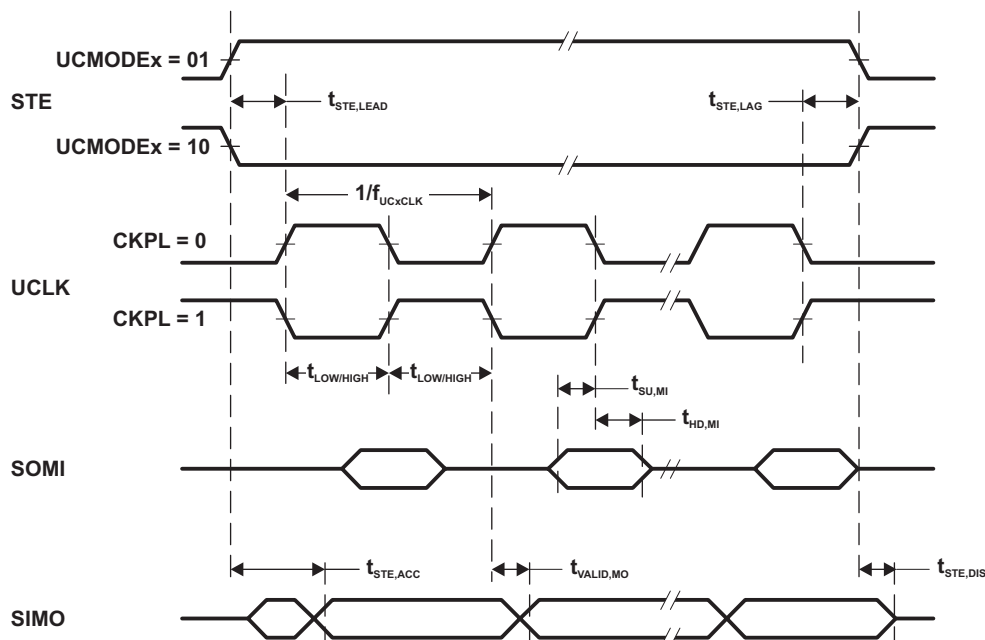
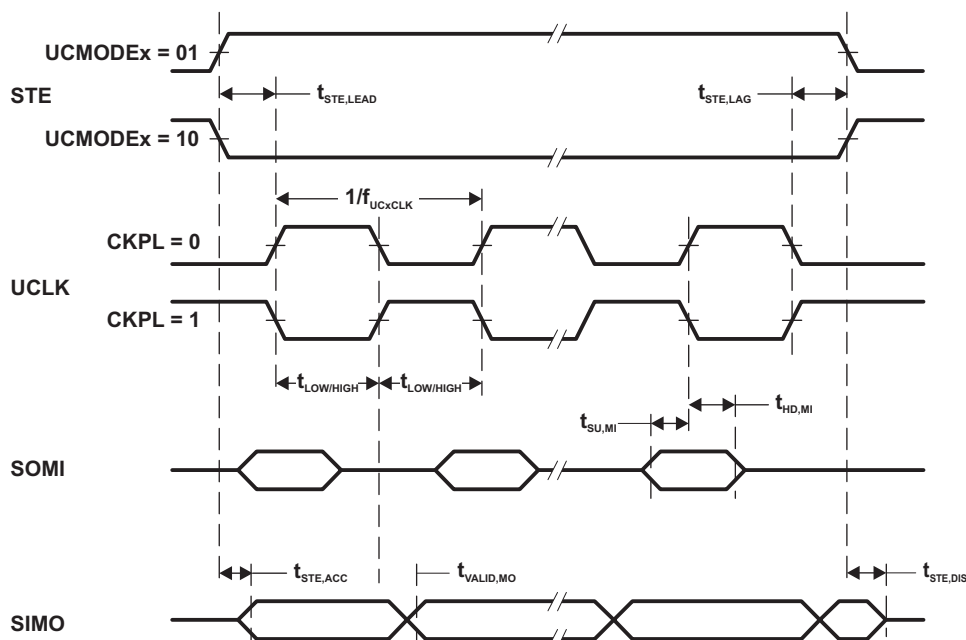

Figure 5-6. SPI Master Mode, CKPH = 0
Figure 5-7. SPI Master Mode, CKPH = 1
- (1) $f_{UCxCLK} = 1/2t_{LO/HI}$ with $t_{LO/HI} = \max(t_{VALID,MO}(eUSCI) + t_{SU,SI}(Slave), t_{SU,MI}(eUSCI) + t_{VALID,SO}(Slave))$. For the slave's parameters $t_{SU,SI}(Slave)$ and $t_{VALID,SO}(Slave)$ see the SPI parameters of the attached slave.
- (2) Specifies the time to drive the next valid data to the SIMO output after the output changing UCLK clock edge. See the timing diagrams in Figure 5-6 and Figure 5-7.
- (3) Specifies how long data on the SIMO output is valid after the output changing UCLK clock edge. Negative values indicate that the data on the SIMO output can become invalid before the output changing clock edge observed on UCLK. See the timing diagrams in Figure 5-6 and Figure 5-7.